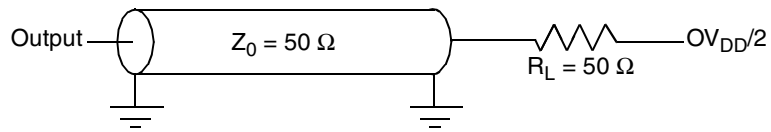
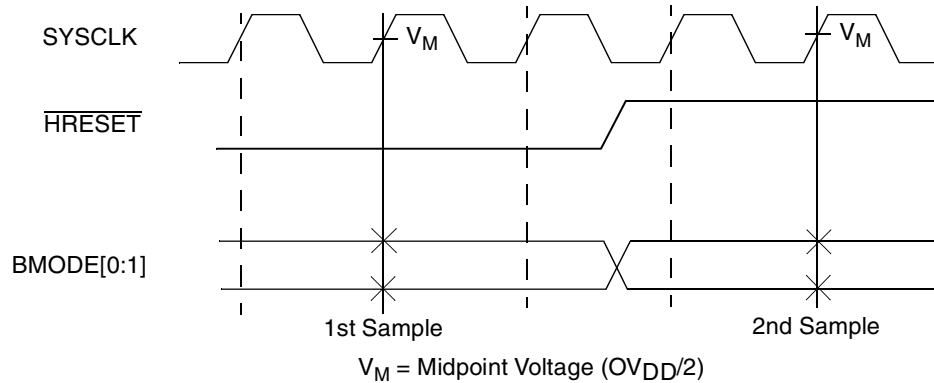
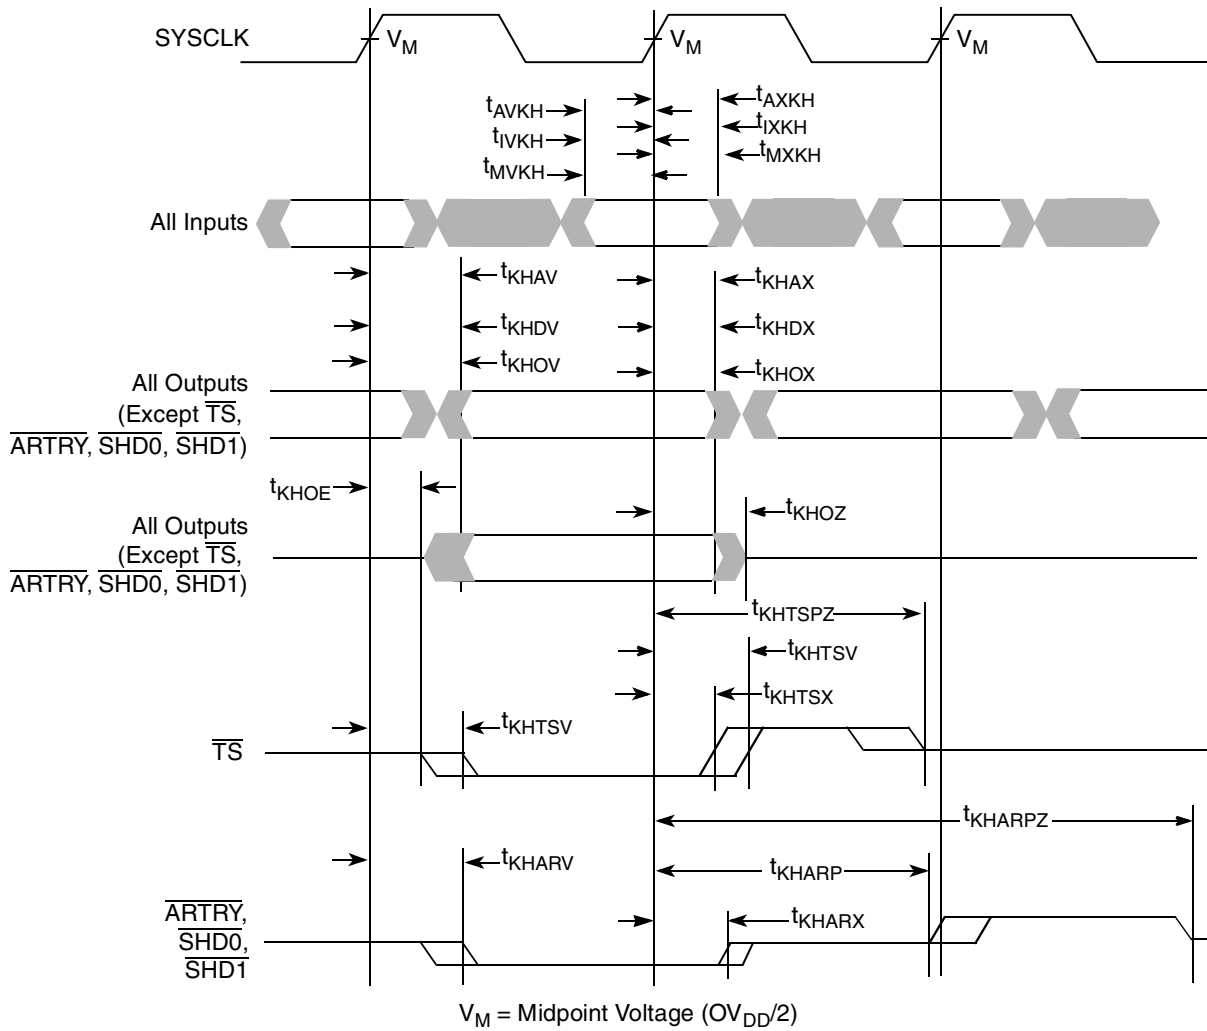

Figure 4. AC Test Load
Figure 5. $\overline{\text{BMODE}}[0:1]$ Input Sample Timing Diagram
Figure 6. Input/Output Timing Diagram
Table 9 provides the processor bus AC timing specifications for the MPC7448 as defined in Figure 4 and Figure 5.
- All input specifications are measured from the midpoint of the signal in question to the midpoint of the rising edge of the input SYSCLK. All output specifications are measured from the midpoint of the rising edge of SYSCLK to the midpoint of the signal in question. All output timings assume a purely resistive 50-Ω load (see Figure 4). Input and output timings are measured at the pin; time-of-flight delays must be added for trace lengths, vias, and connectors in the system.
- The symbology used for timing specifications herein follows the pattern of $t_{(signal)(state)(reference)(state)}$ for inputs and $t_{(reference)(state)(signal)(state)}$ for outputs. For example, t_{VKH} symbolizes the time input signals (I) reach the valid state (V) relative to the SYSCLK reference (K) going to the high (H) state or input setup time. And t_{KHOV} symbolizes the time from SYSCLK(K) going high (H) until outputs (O) are valid (V) or output valid time. Input hold time can be read as the time that the input signal (I) went invalid (X) with respect to the rising clock edge (KH) (note the position of the reference and its state for inputs) and output hold time can be read as the time from the rising edge (KH) until the output went invalid (OX).
- According to the bus protocol, \overline{TS} is driven only by the currently active bus master. It is asserted low and precharged high before returning to high impedance, as shown in Figure 6. The nominal precharge width for \overline{TS} is t_{SYSCLK} , that is, one clock period. Since no master can assert \overline{TS} on the following clock edge, there is no concern regarding contention with the precharge. Output valid and output hold timing is tested for the signal asserted. Output valid time is tested for precharge. The high-impedance behavior is guaranteed by design.
- According to the bus protocol, \overline{ARTRY} can be driven by multiple bus masters through the clock period immediately following \overline{AACK} . Bus contention is not an issue because any master asserting \overline{ARTRY} will be driving it low. Any master asserting it low in the first clock following \overline{AACK} will then go to high impedance for a fraction of a cycle, then negated for up to an entire cycle (crossing a bus cycle boundary) before being three-stated again. The nominal precharge width for \overline{ARTRY} is $1.0 t_{SYSCLK}$; that is, it should be high impedance as shown in Figure 6 before the first opportunity for another master to assert \overline{ARTRY} . Output valid and output hold timing is tested for the signal asserted. The high-impedance behavior is guaranteed by design.
- $\overline{BMODE}[0:1]$ and $BVSEL[0:1]$ are mode select inputs. $\overline{BMODE}[0:1]$ are sampled before and after \overline{HRESET} negation. $BVSEL[0:1]$ are sampled before \overline{HRESET} negation. These parameters represent the input setup and hold times for each sample. These values are guaranteed by design and not tested. $\overline{BMODE}[0:1]$ must remain stable after the second sample; $BVSEL[0:1]$ must remain stable after the first (and only) sample. See Figure 5 for sample timing.
Figure 4 provides the AC test load for the MPC7448.
Figure 5 provides the $\overline{\text{BMODE}}[0:1]$ input timing diagram for the MPC7448. These mode select inputs are sampled once before and once after $\overline{\text{HRESET}}$ negation.
Figure 6 provides the input/output timing diagram for the MPC7448.